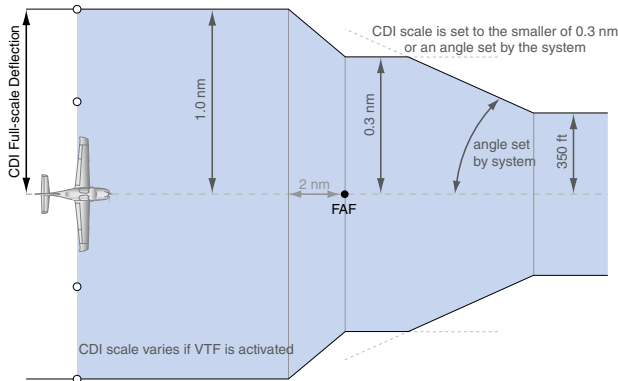

Figure 2-25 Typical LNAV and LNAV+V Approach CDI Scaling
- During **approach**, the CDI scale ramps down even further (see Figures 2-25 and 2-26). This transition normally occurs within 2.0 nm of the Final Approach Fix (FAF). The CDI switches to approach scaling automatically once the approach procedure is active or if Vectors-To-Final (VTF) are selected.